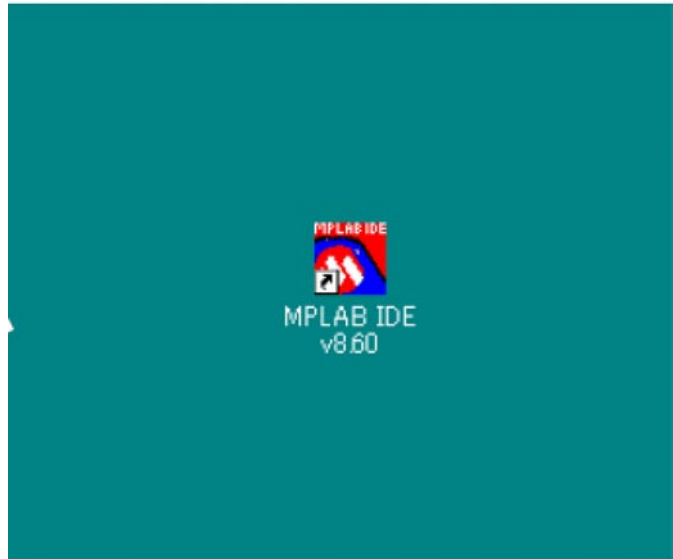

Fig. 3
- (1) Supply DC 15V to ICD3 from AC adapter.
- (2) Start up "MPLAB IDE v.8.**.exe" (Fig. 3)